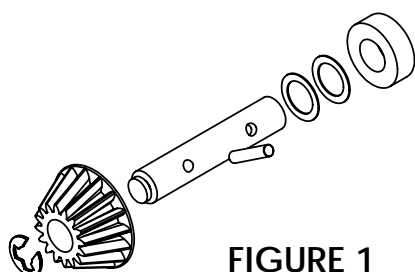

FIGURE 1
1. INSTALL AND CENTER THE DOWEL PIN INTO THE FRONT INPUT SHAFT. (FIGURE 1)